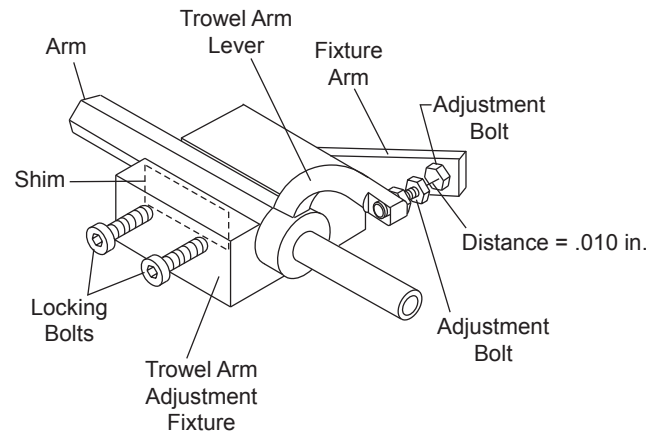

Figure 41. Trowel Arm Adjustment Fixture Components
3. Figure 41 illustrates the adjustment tool with a trowel arm inserted. As each trowel arm is locked into the tool, the arm bolt is adjusted to where it contacts a stop on the fixture. This will consistently adjust all of the trowel arms, keeping the finisher as flat and evenly pitched as possible.
4. Unscrew the locking bolts on the adjustment tool and place the trowel arm into the fixture channel as shown in Figure 41. A thin shim may be required to cover the blade holes on the trowel arm. Make sure to align the trowel adjustment bolt with the fixture adjustment bolt.
6. Adjust the bolt "distance" shown in Figure 41 to match one of the arms. The other arms will be adjusted to match this distance.